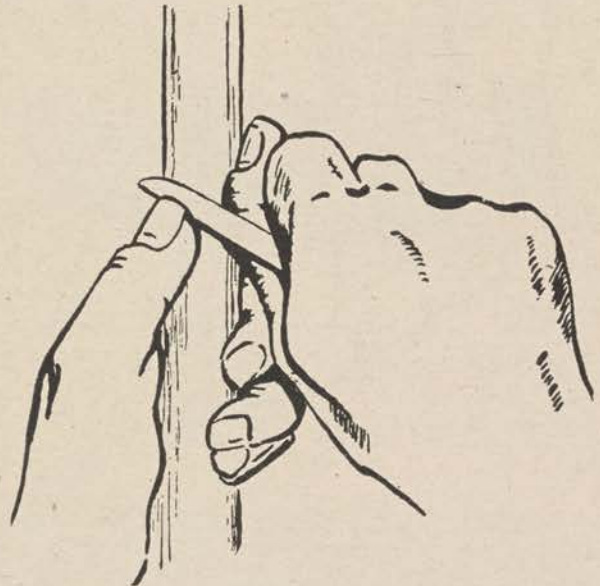
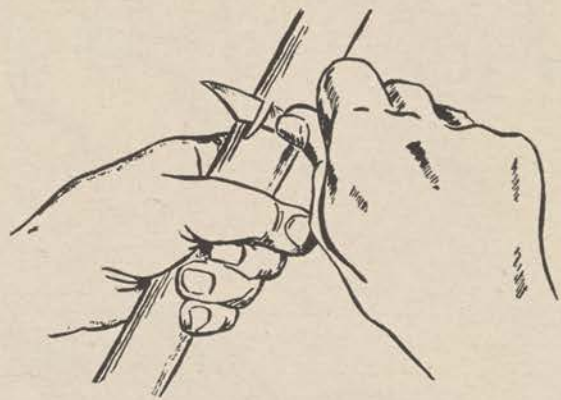

Figure 48.
Figure 49.
a. All whittling is done with a few standard knife cuts. The commonest is the full hand grip (fig. 48). It removes waste wood quickly, but is hard to control. Extending the thumb along the back of the blade gives less power, but better guidance (fig. 49). The knife may also be drawn toward you with a full hand grip or with the thumb braced on the work (fig. 50). For deep, straight cuts, reverse the full hand grip (fig. 51). In outlining or making stop cuts, the blade is guided by the forefinger (fig. 52).